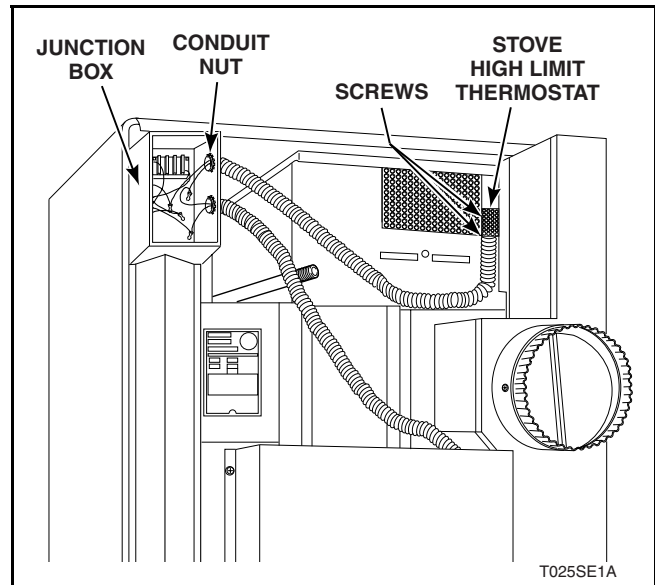

Figure 4
- Remove two screws holding thermostat and bracket to rear side of stove. Refer to *Figure 4*.